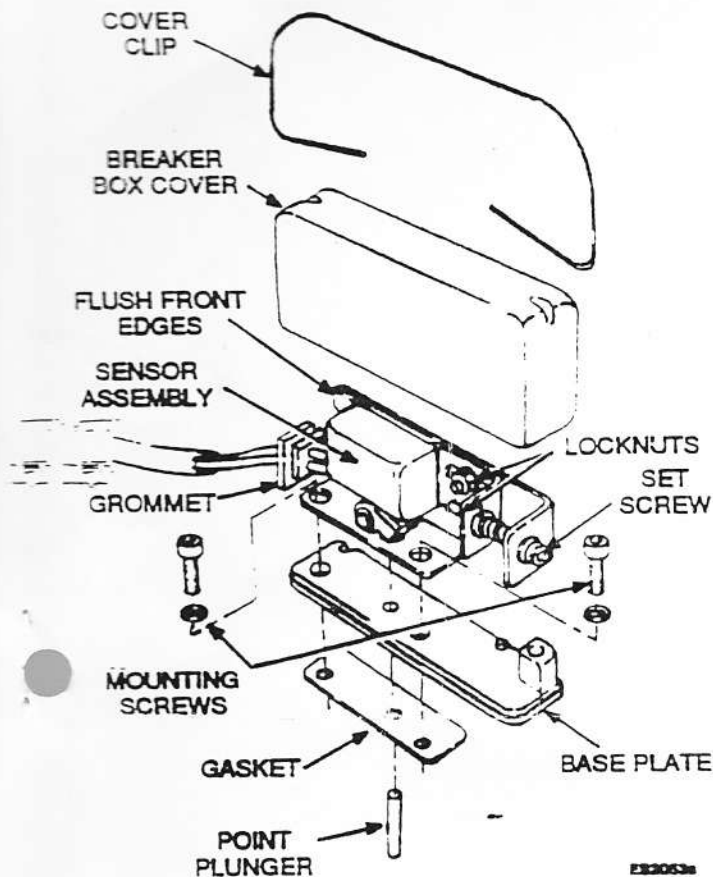

FIGURE 3. ELECTRONIC IGNITION MODULE
1. Apply grease to the top of the point plunger. See Figure 3.